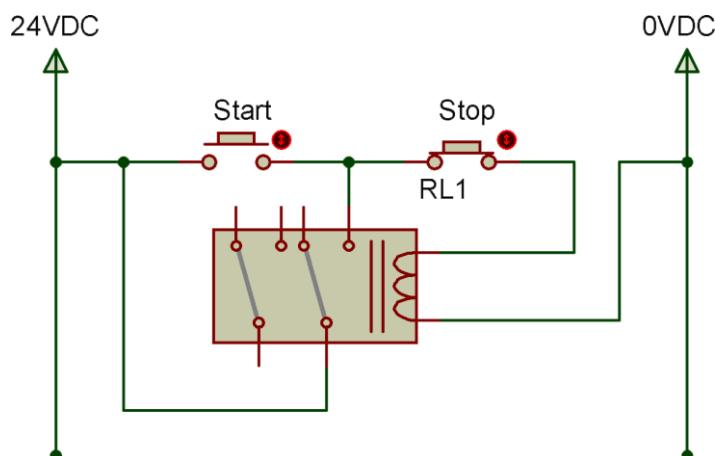

Figure 1: circuit diagram of Self-Holding circuit
1. Make a circuit according to the circuit diagram shown in Figure 1. This circuit is to control the state of a 24 Vdc pilot lamp using an NO contact of the relay.